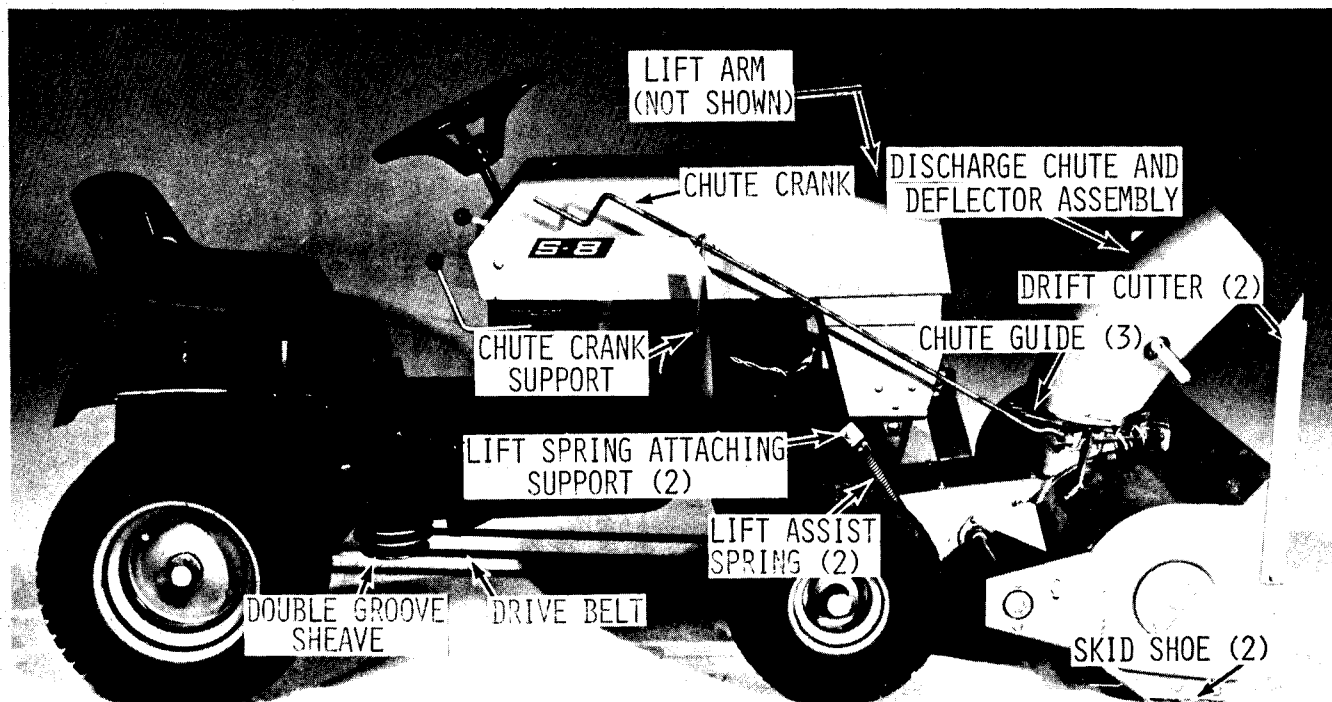

FIGURE 13
SNO-THRO (Figure 13)
1. Adjust the deflector (9) Figure 13, to the desired height before starting engine. Raising the deflector will cause snow to be thrown the greatest distance. Lowering the deflector will shorten the distance.
2. Turn the chute crank (6) Figure 13, so that snow will be thrown in the desired direction.
On the S-8 and S-12 tractor the sno-thro is raised by pulling the manual lift lever (3) Figure 13, until the latch snaps into a notch of the control quadrant. To lower sno-thro, pull lever slightly rearward, depress button and move the lever forward.